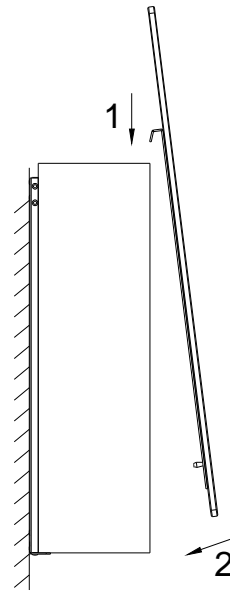

Fig. 6
- Install the fireplace front as picture. (Fig. 6) Fix the fireplace front by 2pcs  $M4 \times 8$  screws